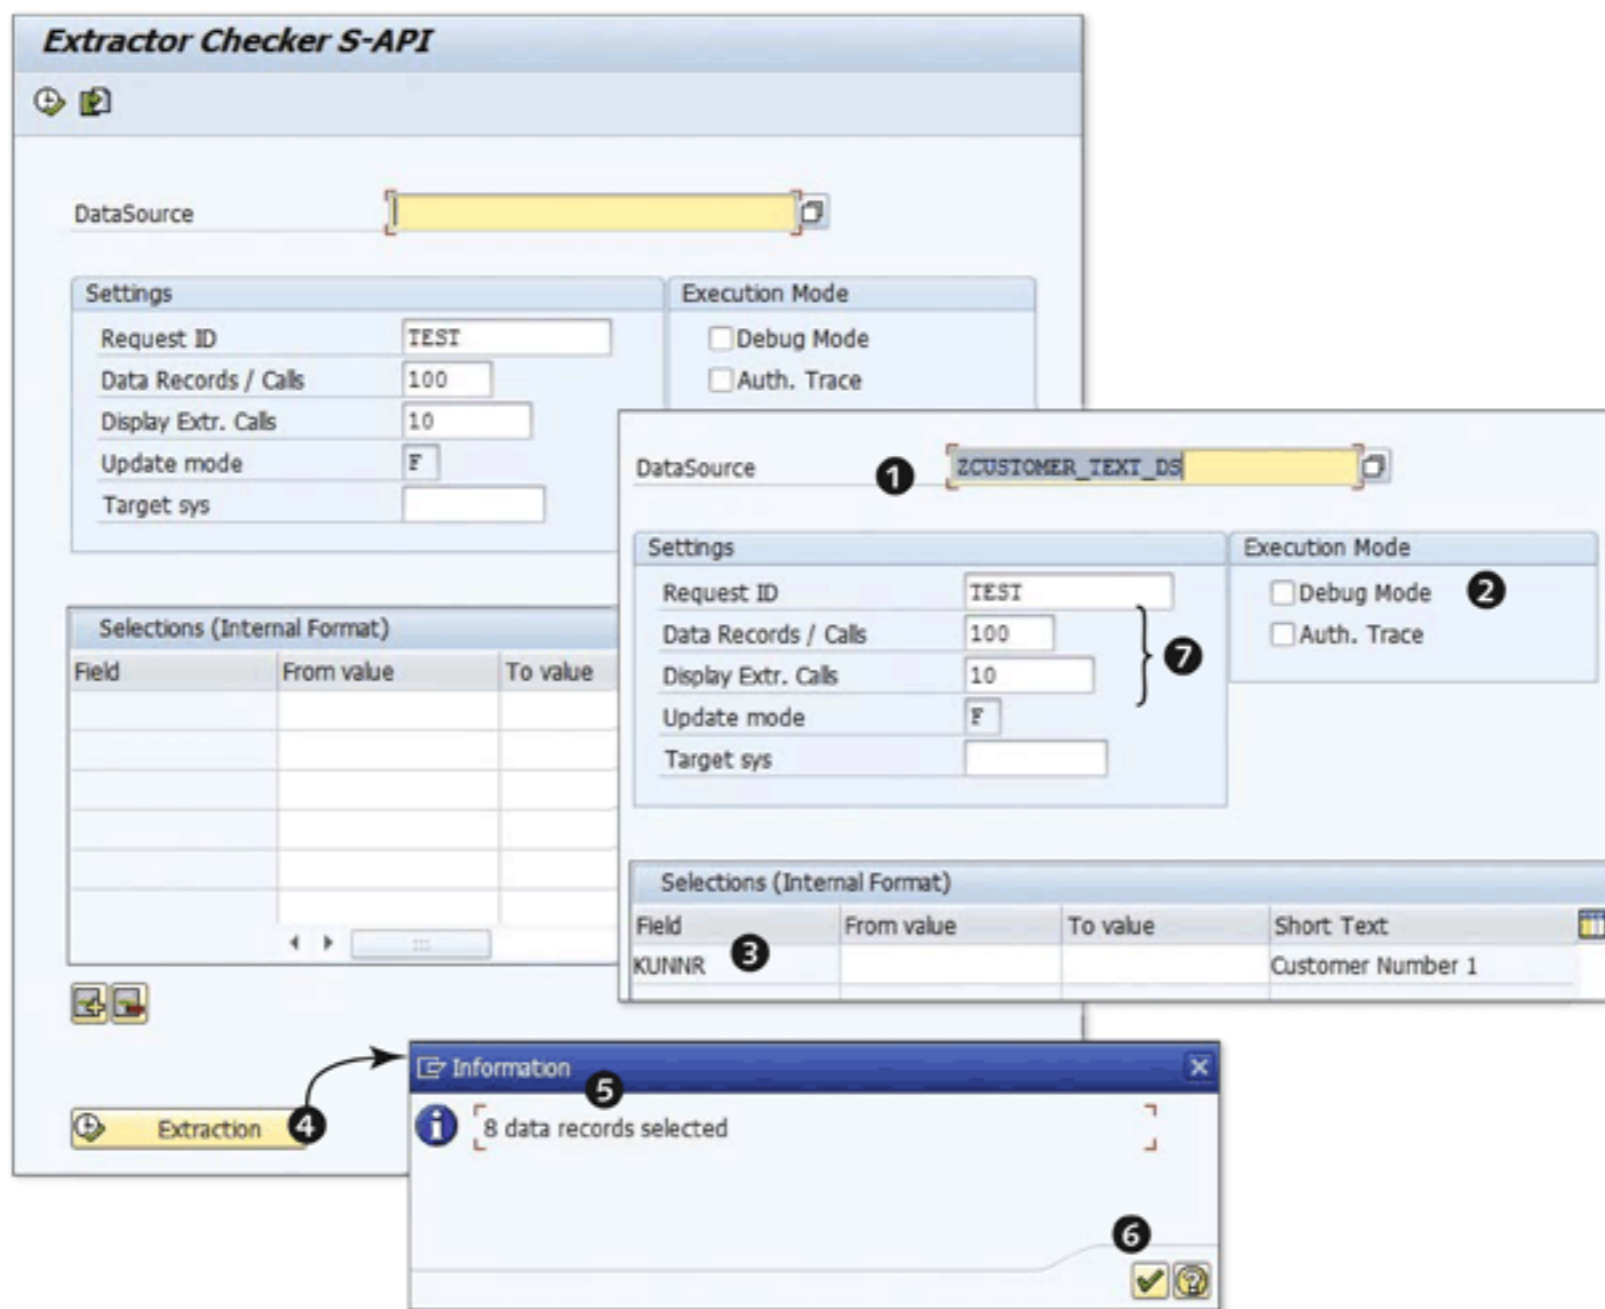

Figure 8.12 Extractor Checker Initial Screen
After a DataSource is created in the source system, you may want to check its accuracy. For this, SAP has provided a tool called the Extractor Checker. Start Transaction RSA3 in SAP ERP to bring up the EXTRACTOR CHECKER S-API screen shown in Figure 8.12.
Enter the name of the DataSource you want to test in the DATASOURCE field, as shown in 1 of Figure 8.12. You have two options (2) for the execution mode: **DEBUG MODE**, which helps in starting the debugger and takes you through step-by-step execution of the underlying DataSource program; and **AUTH. TRACE**, which is used for tracing authorization while accessing various tables and objects used by the underlying DataSource program.
The selection fields flagged when you created the DataSource are also available here. As shown in ③ of Figure 8.12, KUNNR is available for selection.